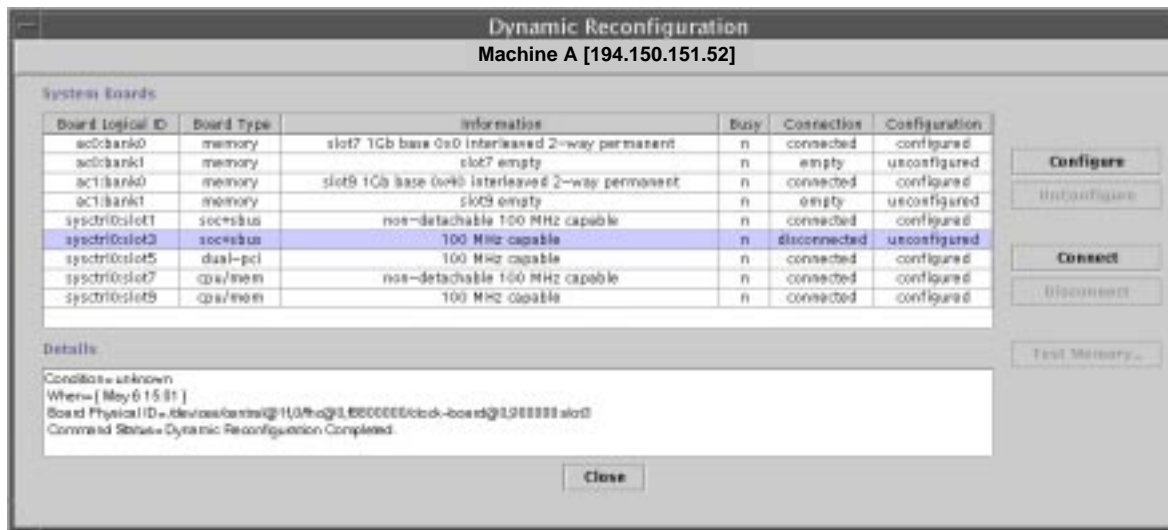

FIGURE 6 Dynamic Reconfiguration Window With Disconnected Board Selected
- **Select the board row in the system boards summary table and click the Connect button (FIGURE 6).**